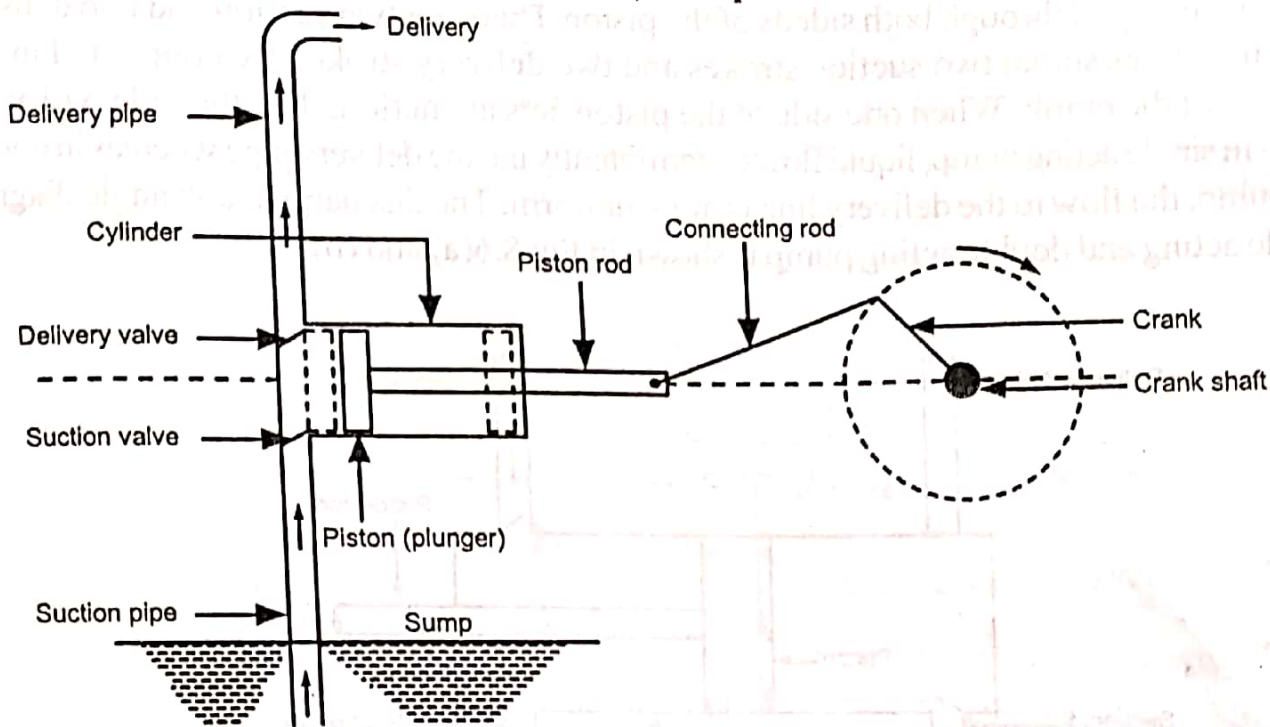

Fig. 8.4. Single acting reciprocating pump
Figure 8.4 shows the schematic of a single stage, single acting reciprocating pump. It primarily consist of:
2. **Suction and delivery pipes** fitted to the cylinder as shown in Fig. 8.4.
Consider a single cylinder, single acting pump as shown in Fig. 8.4. When the plunger moves towards right side (from inner dead centre to the outer dead centre) partial vacuum is developed in the left space of the cylinder. The vacuum in the region causes suction valve to open. Since atmospheric pressure is acting on the liquid surface in the sump, liquid from the sump moves up through the suction pipe and fills the left side of the cylinder. This stroke of the plunger is called **suction stroke**.